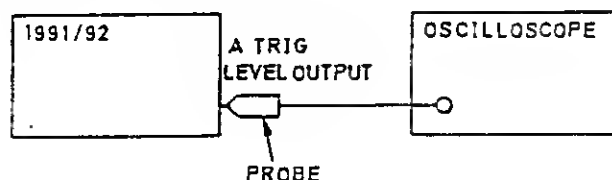

Figure 6.35 - Connections for Trigger Level PVP (I)
- a. Connect the test equipment as shown in Figure 6.35